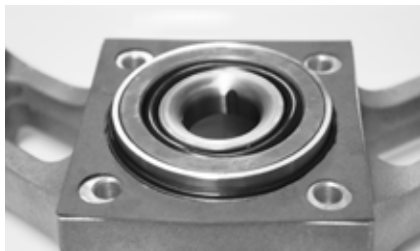

Fig. 11 - View when Lower Driver Body removed.
Remove the four (4) chuck bolts (p/n 300715) and disconnect the chuck. Remove the four (4) lower bolts (p/n 300702) from the lower driver body and the four (4) bolts (p/n 300715) from the upper handle bracket. Use caution as the handle tubes have four (4) anti-vibration springs (p/n 610010) installed and under tension. Grasping the upper handle bracket pull it directionally away from the driver body to create a separation between them. While separated, lift and remove the upper driver body assembly (p/n 301016) from the post driver assembly and set aside. Observe the lower driver body, it should appear as shown in **Fig. 11**. The anvil o-ring retainer (p/n 301115) will sometimes drop out with the lower driver body or remain in place at the base of the cylinder of the upper driver body.
Clean and inspect the lower driver body (p/n 301032) for any damage or excessive wear. Replace if necessary. Lubricate inside of the sleeve of the lower body with grease. Lubricate the anvil with grease. Insert the anvil with new anvil o-ring into lower body, making certain that the anvil is seated into the lower body. Insert the anvil o-ring cup into the lower body. Discard the o-ring cup o-ring (p/n 301618) and body gasket (p/n 301710) replace with new o-ring and gasket. It should look like **Fig. 11**.